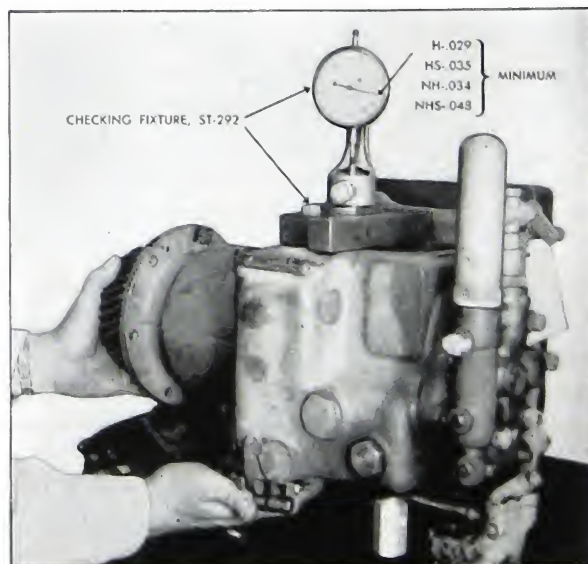

Fig. 5-159. Metering plunger travel
3. Install a fixture, ST-292, with metering pump, spring and dial indicator attached as shown in Fig. 5-159, to the main housing. With fuel control lever clamped in full fuel position,